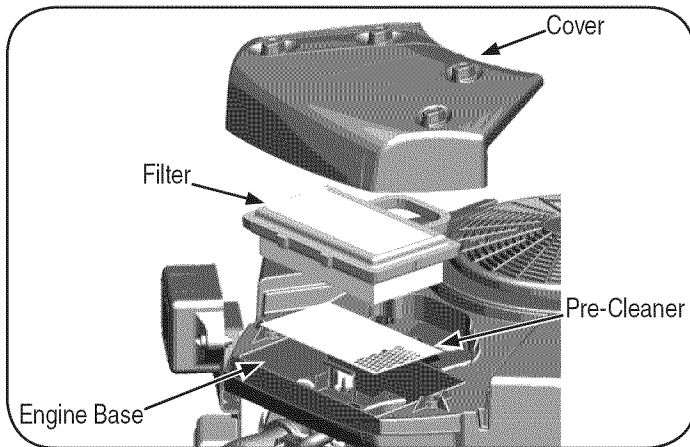

Figure 27
2. To remove the air filter, lift the end of the filter. See Figure 27.